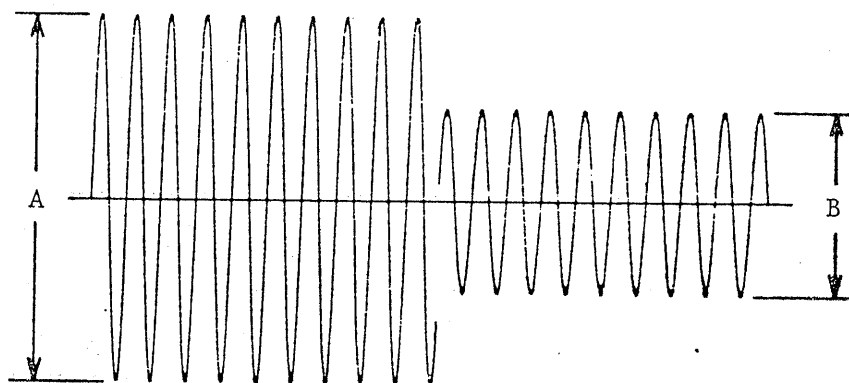

Fig. 12
- (3) Comparison of amplitudes of CHL and CHR:
To compare the amplitudes of CHL and CHR, set the MODE switch ⑨ in the H ☐ state for the horizontal dual-trace operation and adjust the sweep at an appropriate speed. Denoting the amplitudes of CHL and CHR by A (DIV) and B (DIV) as shown in Fig. 12, the differential amplitude is calculated as follows: